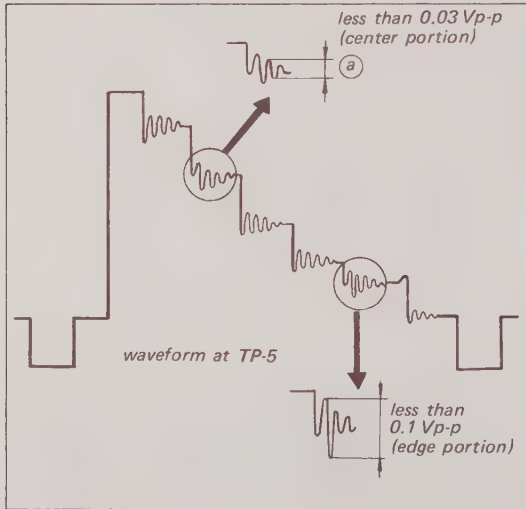

Fig. 8-28. Chrominance (3.58 MHz) trap adjustment
2. Adjust L4 and L5 for minimum 3.58 MHz signals on the Y signal. See Fig. 8-28.